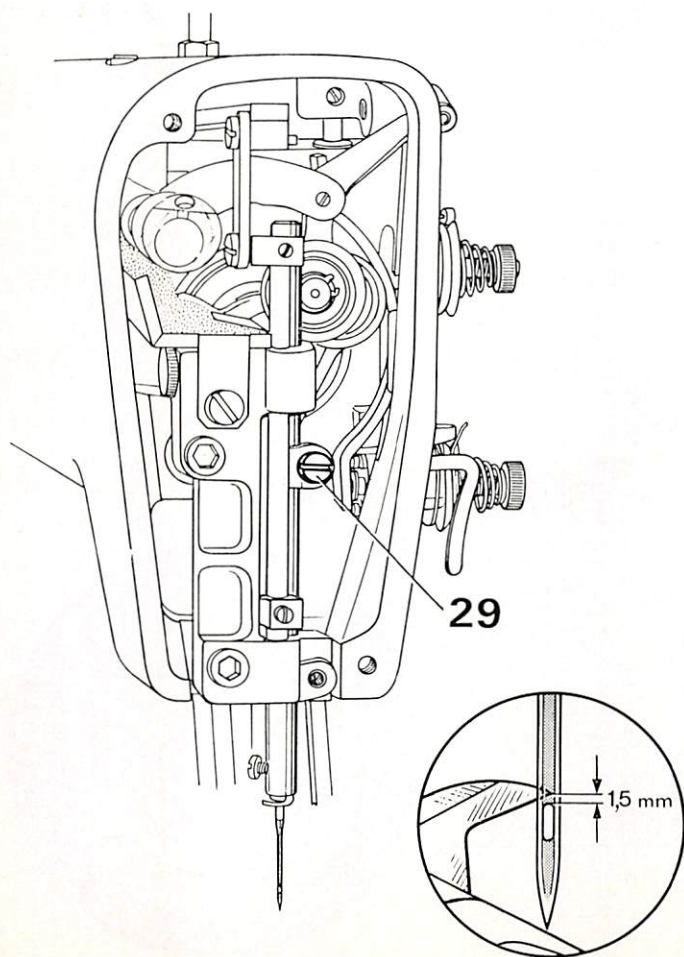

Fig. 18
**18. Setting the needle bar at the correct height (Fig. 18)**
- 18.3. Move the needle bar up or down until there is a clearance of 1.5 mm (0.06") between the lower edge of the shuttle point and the top of the needle eye (see encircled view of Fig. 18).